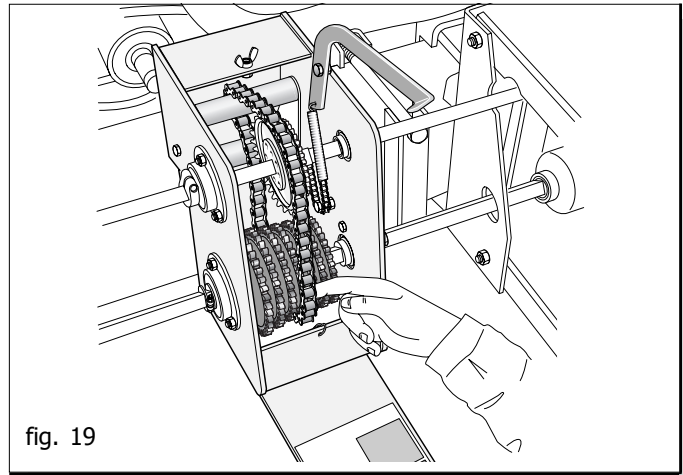

fig. 19
- To move the chain, open the gearbox cover and loosen the chain (1) by means of the lever. (2 Fig. 19).
- Tension the chain again by means of the lever (2 Fig. 19) and close the cover.